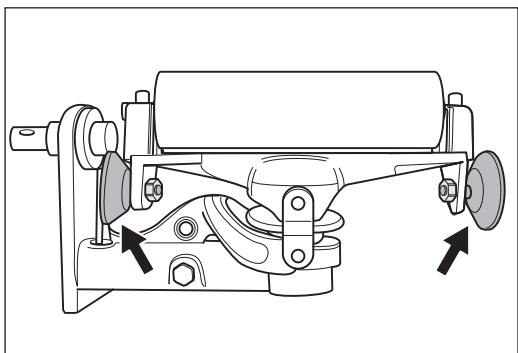

Fig. 37 The two guide rollers must be rotatable easily! Otherwise they must be replaced!
- The two guide rollers at the drive unit must be rotatable easily (Fig. 37)! Otherwise they must be replaced without fail (part number in **Section 11, Spare parts**)!